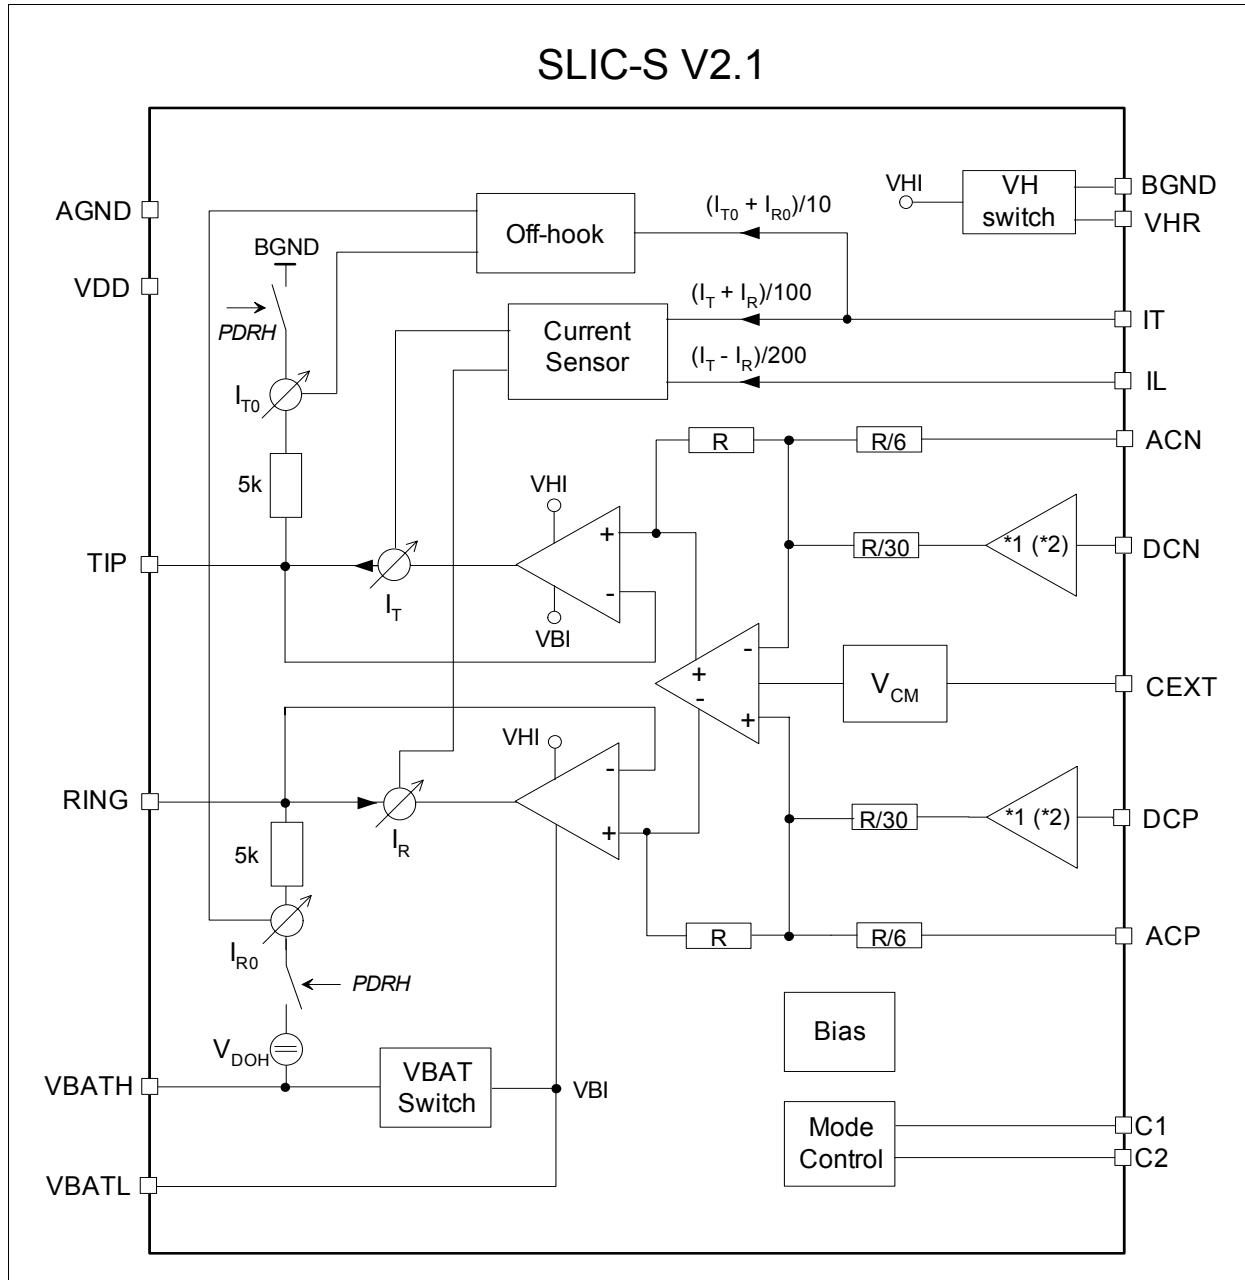

Figure 6 Block Diagram
A functional block diagram is shown in Figure 6.
Power consumption is reduced to a minimum by switching completely off all voice transmission functions. To allow off-hook detection, PDRH provides a connection of 5 kΩ each from TIP to BGND and RING to VBATH, respectively, while the output buffers show high impedance (see **Figure 6**). The current through these resistors is sensed, scaled by 1/5 and transferred to the IT pin for off-hook supervision.
3) Due to the changed battery switch concept (see **Figure 6**), the VBATL series diode must not be shared between different channels; one diode per channel is mandatory (also for applications with TSLIC-S).